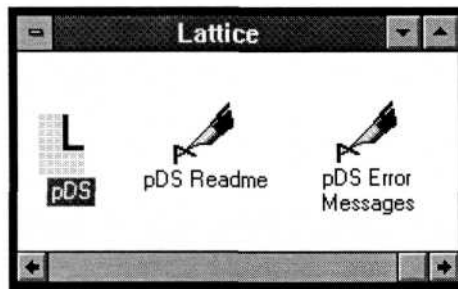

Figure 3-1. Lattice Program Group Window
2. Install the Lattice pDS software according to the installation instructions. A new program group called Lattice is created. This program group should contain three icons. Select the icon which looks like the Lattice company logo (Figure 3-1).
1. From within Windows, double-click on the Lattice Icon to start the pDS software (Figure 3-1).